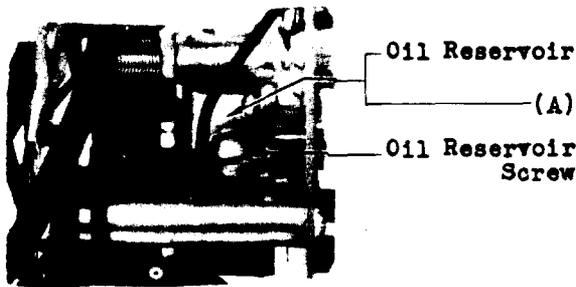

Fig. 5 - Oil Reservoir
- (c) Fig. 5 (A): The motor reservoir ← shall be filled with KS-7470 oil to such a level that with the clock tilted from its normal position, as described below, the oil will just start to flow out of the reservoir. To check the amount of lubricant in the motor reservoir proceed as follows. Remove the oil reservoir screw and washer with the 3" cabinet screwdriver. Rest the bottom edge of the faceplate on a flat surface. Then using the right bottom corner of the faceplate as a pivot, raise the left bottom corner about 1".